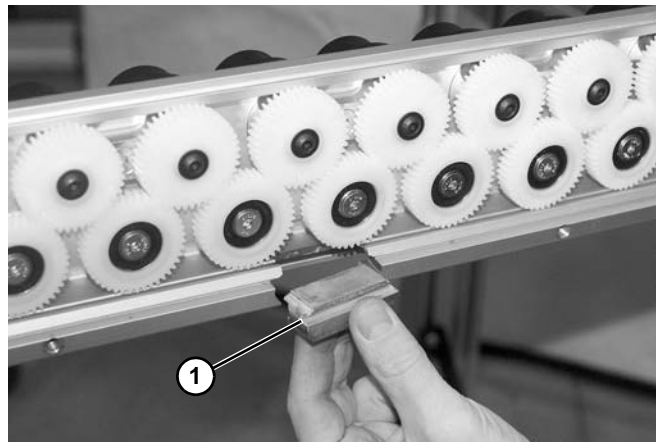

Figure 11
5. Remove plug (**Figure 11, item 1**) on conveyor frame at the new location for motor. Place plug into previous motor location.